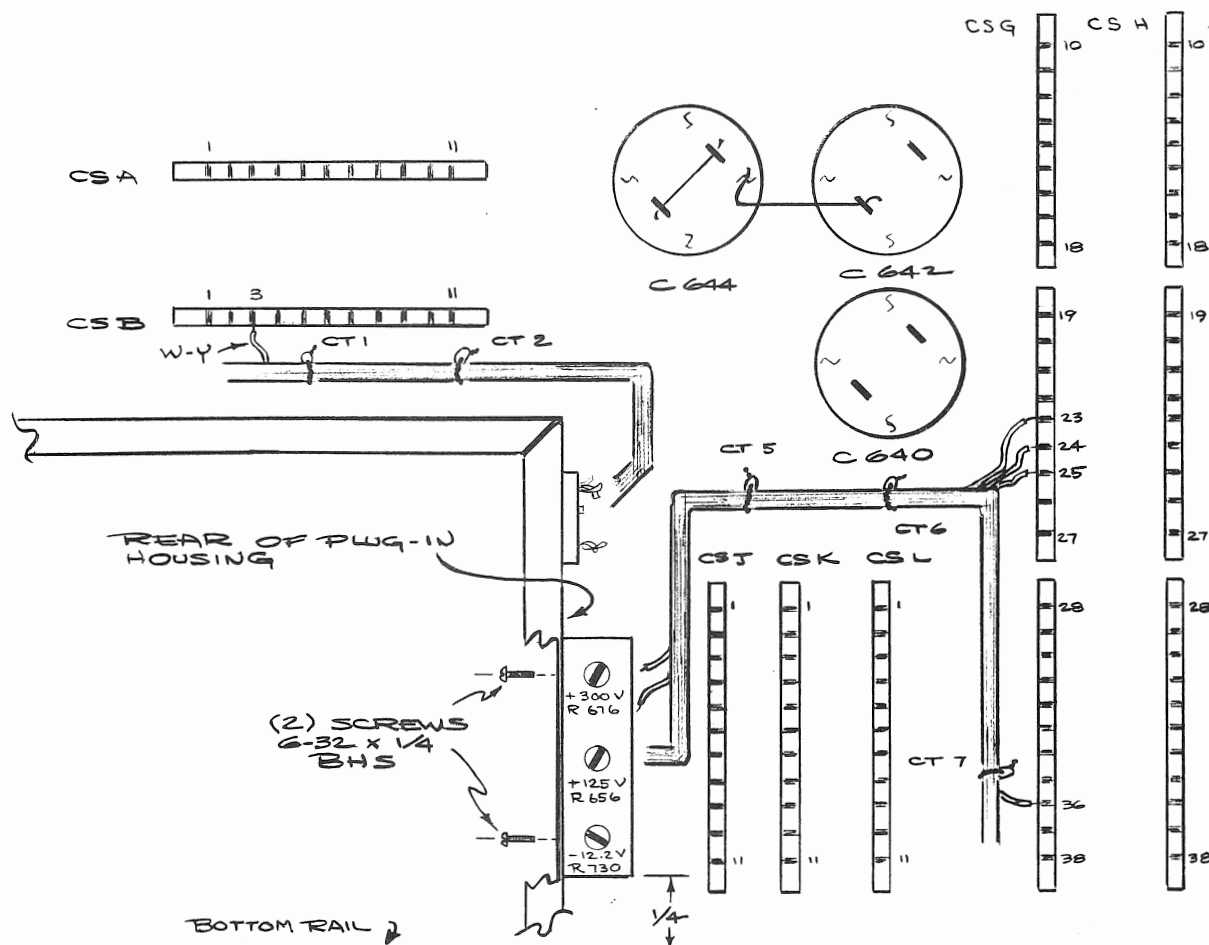

FIG. 1
REFER TO FIGURES 1 and 2
- 1. Remove the following components and wires (see Fig. 1 for ceramic strip locations):